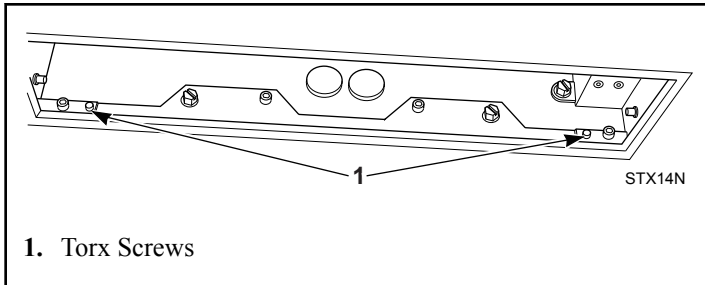

Figure 7
2. Locate two T-20 torx screws in the lint compartment and remove using a T20 bit and ratchet. Refer to *Figure 7*.